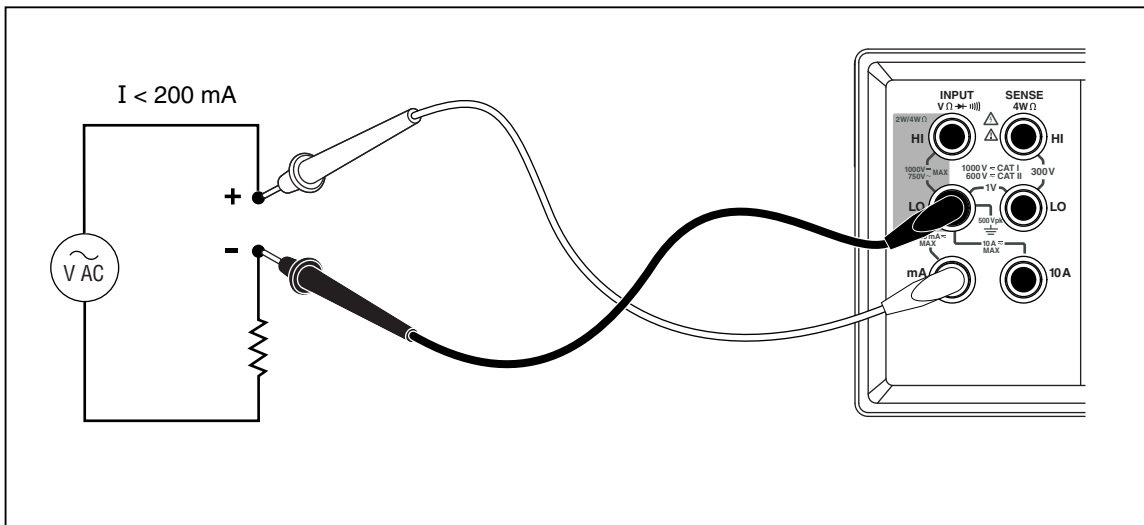

Figure 3-8. Current Measurement  $<200 \text{ mA}$
4. If the measurement is expected to be below 200 mA, connect the test leads to the 200 mA and LO terminals only and remove any leads in the 10 A terminal. See Figure 3-8.